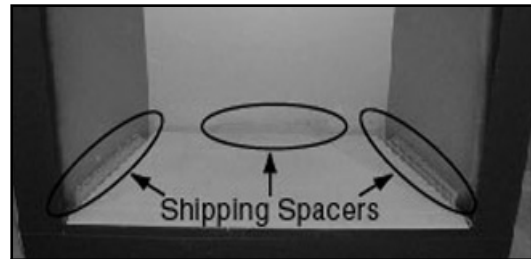
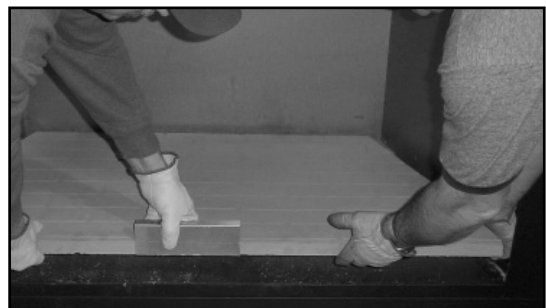

Figure 7.4 Shipping Spacers
Figure 7.5 Lifting Out Hearth Stone
- Remove hearth stone by removing three corrugated shipping spacers (Figure 7.4). Lift hearth stone out of fireplace. See Figure 7.5.